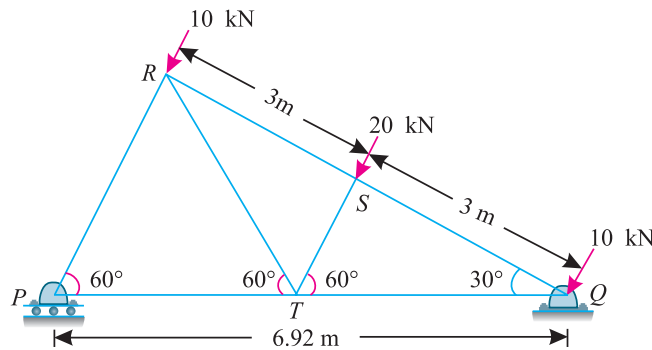

Fig. 13.47.
**Example 13.14.** Figure 13.47 represents a north-light roof truss with wind loads acting on it.